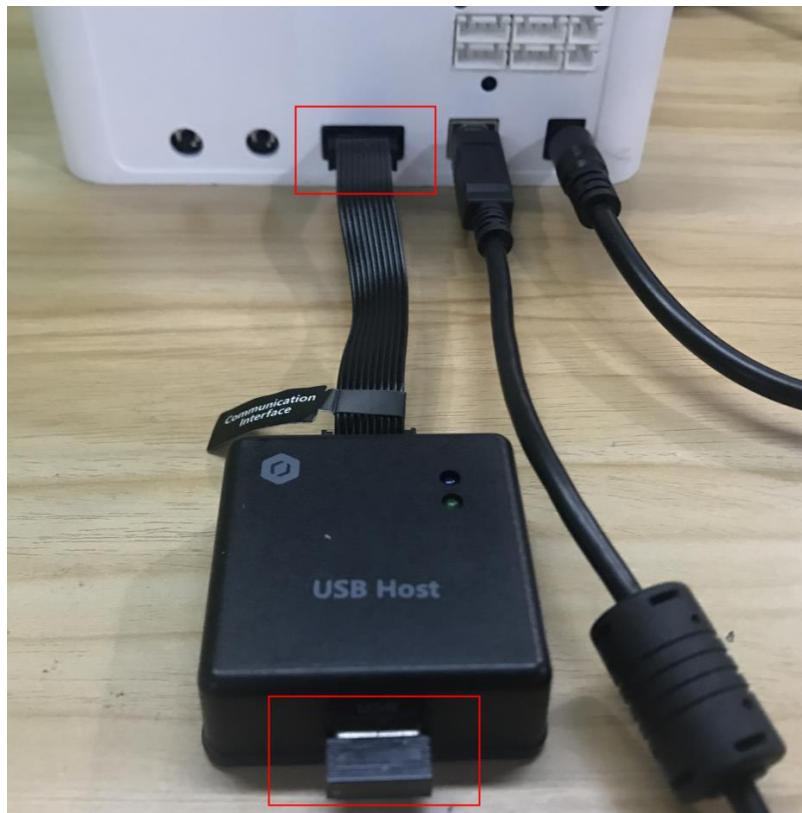

Figure 5.170 Connect with USB Host module
**Step 2** Connect the USB Host module to the UART interface on the base, as shown in Figure 5.170.